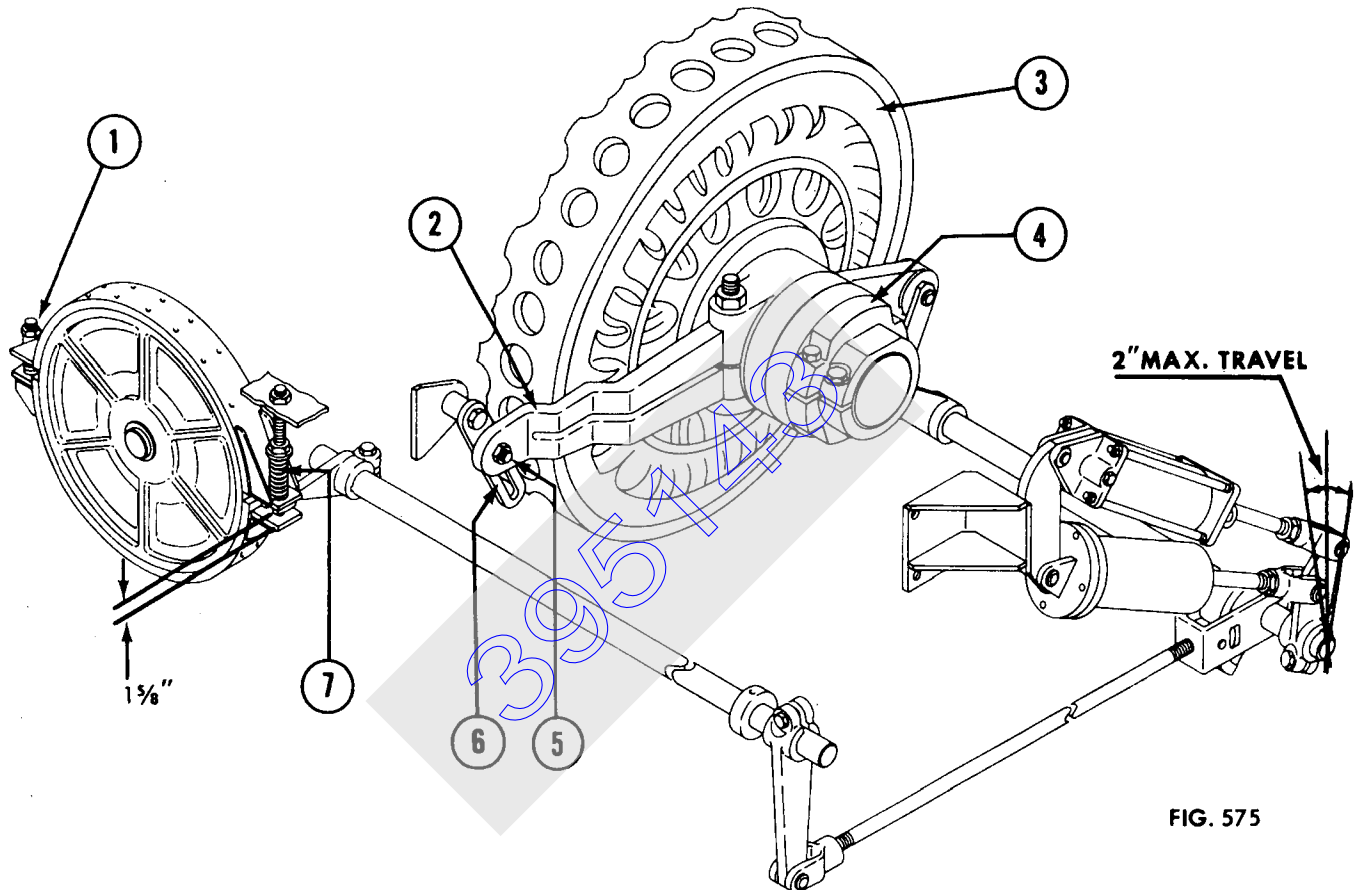
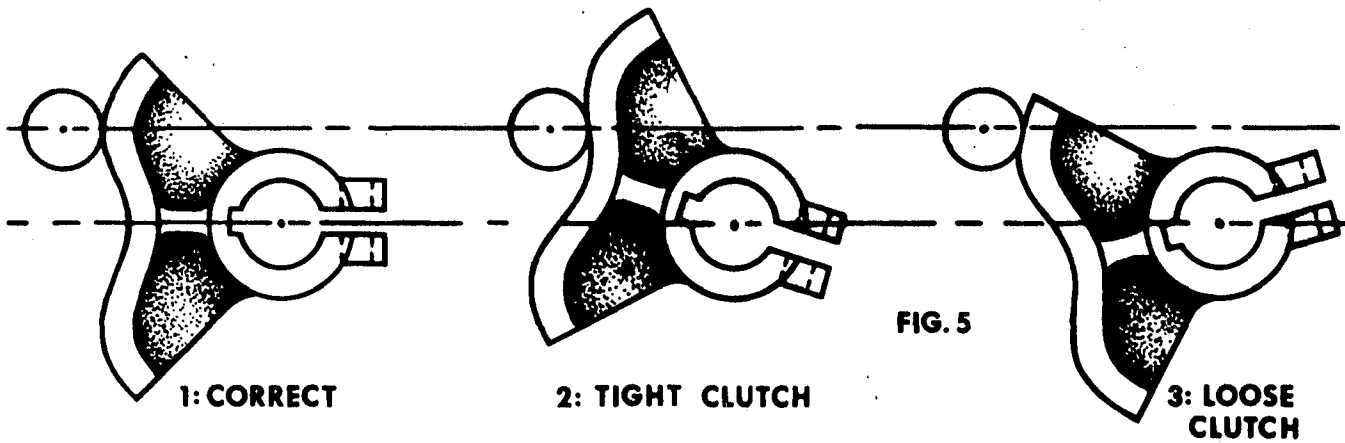

FIG. 575
FIG. 5
A) To check for clutch wear, engage the boom hoist and check roller on brake release cam. See Figure 5 for typical conditions of a fully engaged clutch. To compensate for normal clutch wear, adjustment can be made on slotted link, (Figure 575), or by tightening nut (4), (Figure 575), either adjustment is permissible, but if nut (4) is
B) To adjust helical cam levers, loosen nut (5), (Figure 575), slightly. Tap stationary helical cam lever (2) to a tighter position on slotted link (6). Then tighten nut (5).
A) Return stationary or adjustable cam arm to within $\frac{1}{2}$ " of full-loose location of the slotted link. Adjust nut (4) until position No. 1, (Figure 5), is reached. Replace keeper and clamp bolt.
A) Disconnect stationary cam lever (2), (Figure 575), from slotted adjusting link. Remove the spring covers and springs from the movable pressure plate (3). Remove
It must be remembered that the boom hoist clutches should always engage before the brake releases. Too loose a clutch would release the brake before the clutch is fully engaged, serious damage could occur if this would exist. See Figure 5 for correct position of roller on cam. To insure a free and smooth working boom hoist, oil and grease generously. Check lubricating instructions for greasing intervals.
To compensate for lining wear, adjust nut (1), (Figure 575). Tighten nut (1) until springs (7) are compressed to 4 1/4" between retaining washers). Correct adjustment of the springs will automatically return the 1-5/8" between the two lugs and the 1/8" to 1/4" clearance between the roller and cam. (When checking roller clearance, lift roller away from cam to take out lost motion in linkage. This will show true roller clearance.)